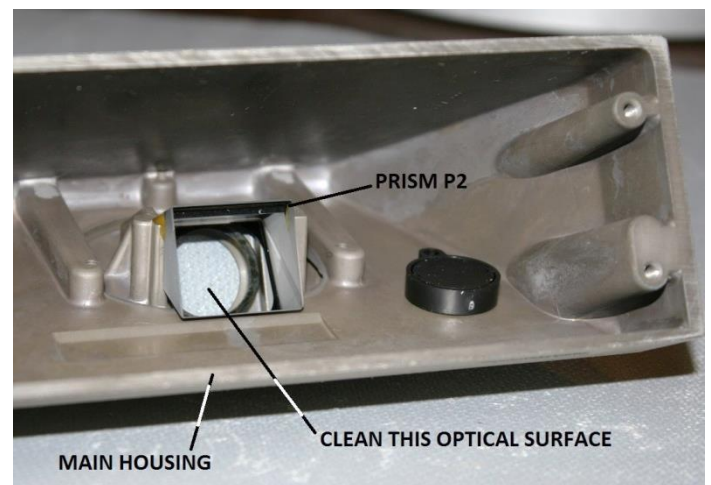

Figure 73 – Clean the face of P2 prism in the main housing
If necessary, use a hand-held air blower and a dust-free lens-cleaning brush to remove any loose dust from the exposed face of the P2 prism inside the main housing. Then use a pre-moistened optical lens-cleaning wipe (item 7 of Appendix 1) to clean the exposed face of the P2 prism (see Figure 73).